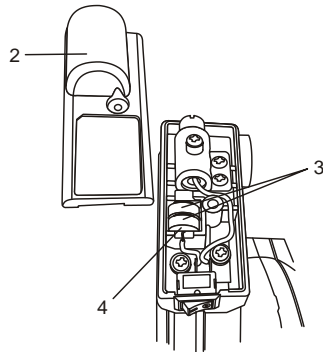

Fig. 13
3. Lift the laser cover (2) off the top of the laser assembly (Fig. 13).
4. Remove the two old batteries (3).